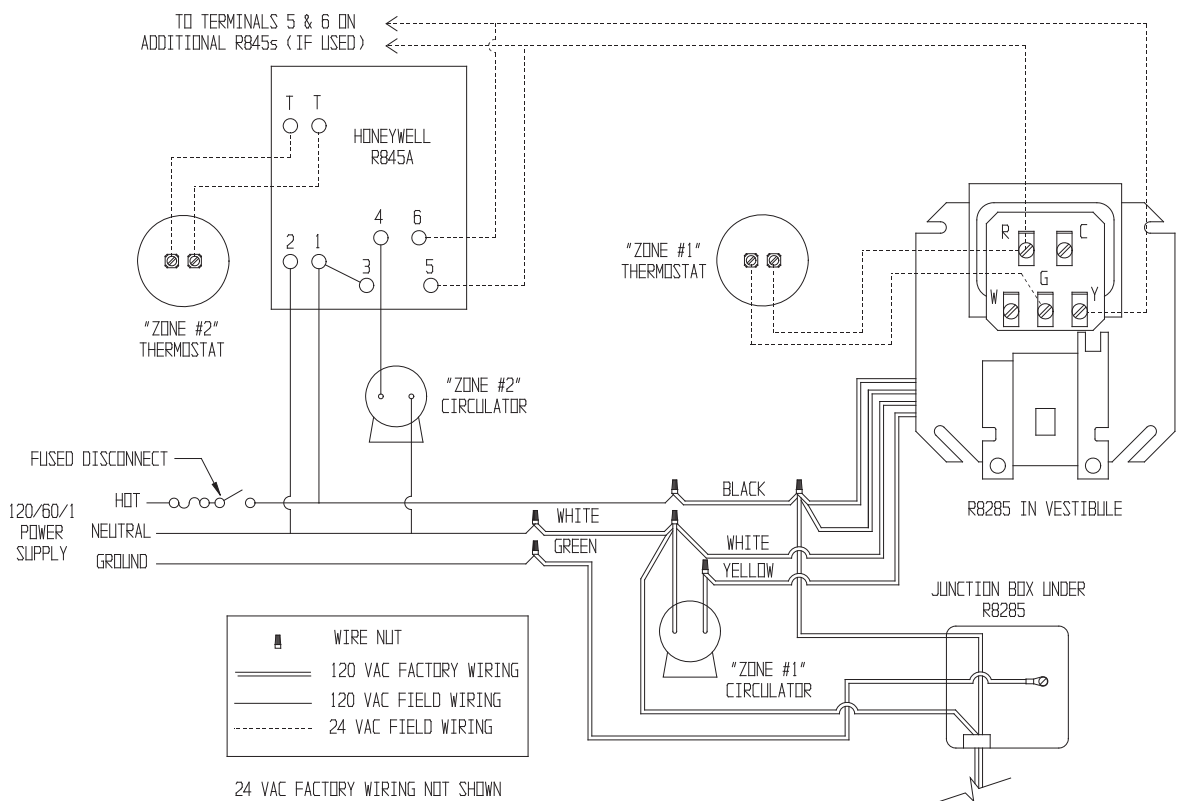

FIGURE 38: R8285 CONTROL SYSTEM - FIELD WIRING FOR TWO CIRCULATOR ZONES
- 1) Multiple Circulator Zones – Figure 38 shows wiring for two or more circulator zones using Honeywell R845As. One fewer R845A is used than the total number of circulator zones. A DPST Honeywell RA832A may be substituted in place of the R845A using the “X” and “X” terminals in place of the “5” and “6” terminals on a R845A.